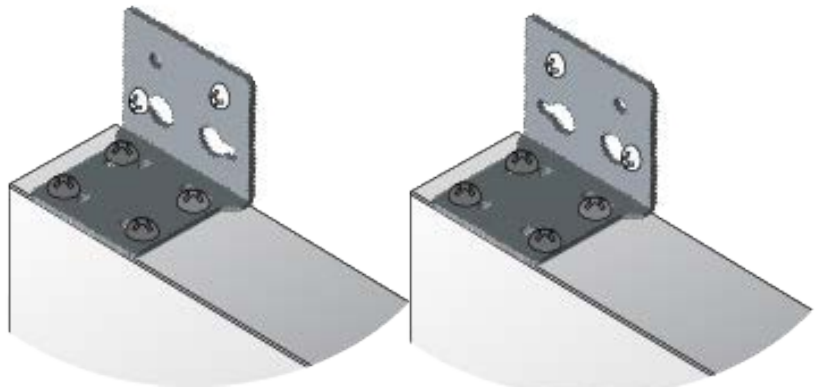

Figure 22. Two Screws Per Bracket Attached on the Wall
- ❑ When you use two screws per bracket to install your switch to a wall, the two screws must be diagonally on the bracket plate as shown in Figure 22 on page 59.